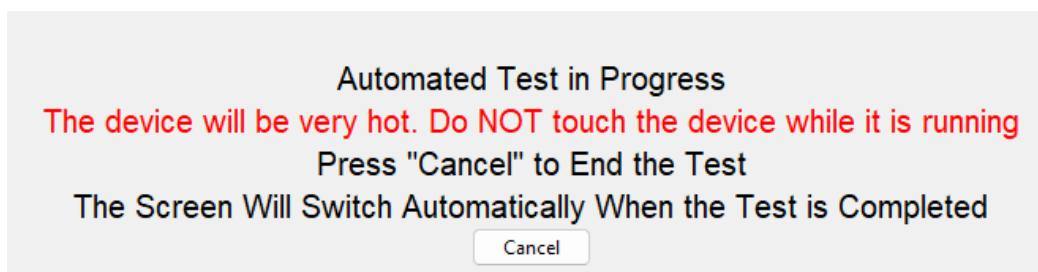

Figure 3.13 - Automated Test Screen (TS)
6a: If an automated test is selected, the device will display the screen shown in figure 3.13, while the automated test is being run. The GUI will switch screens when the test is complete. If the test is successful, skip to section 3.3 to learn how to view and save results. To cancel the test, press “Cancel” (TS).